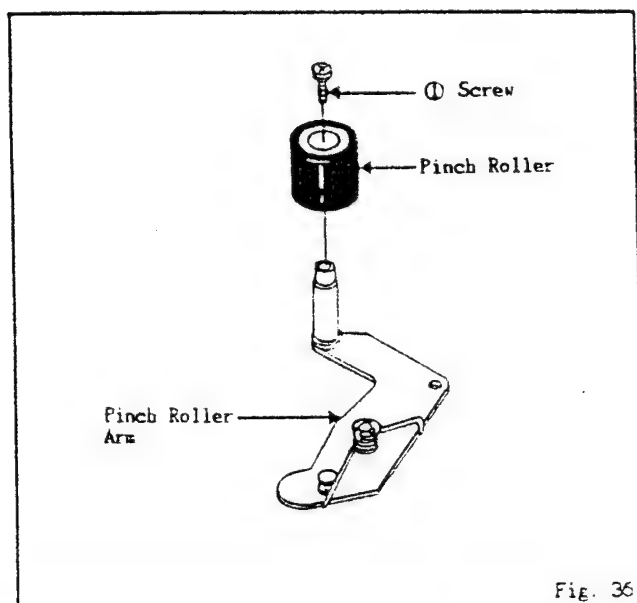

Fig. 36
1. Remove the screw ①. (Fig. 36)